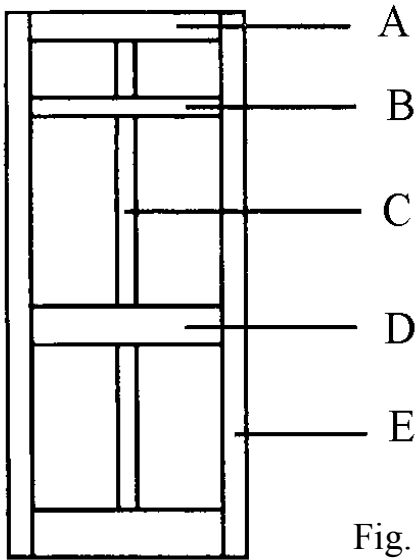

Fig. 1
2. Figure 1 illustrates an external six panel door. Name the parts indicated.